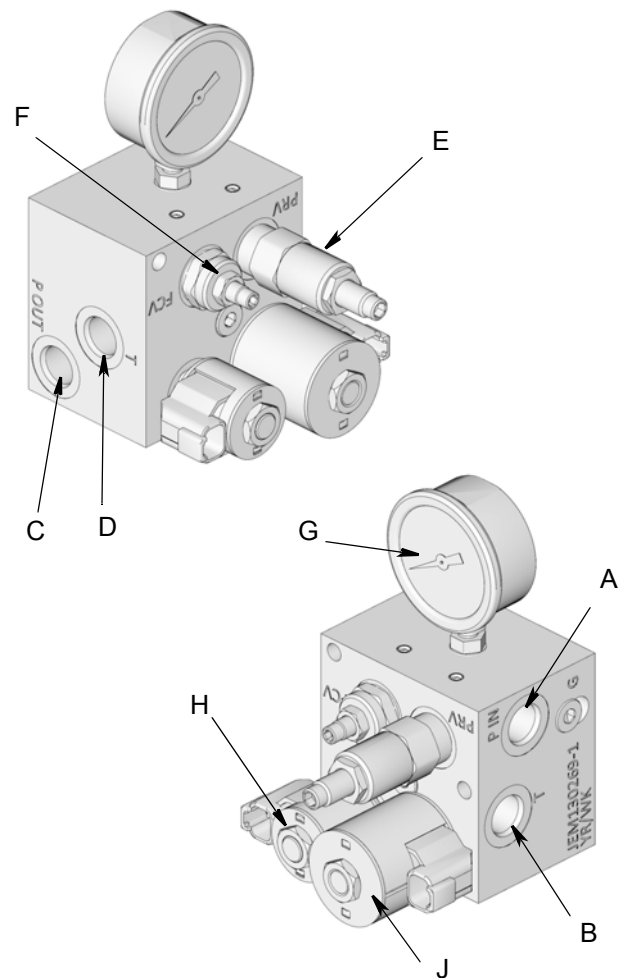
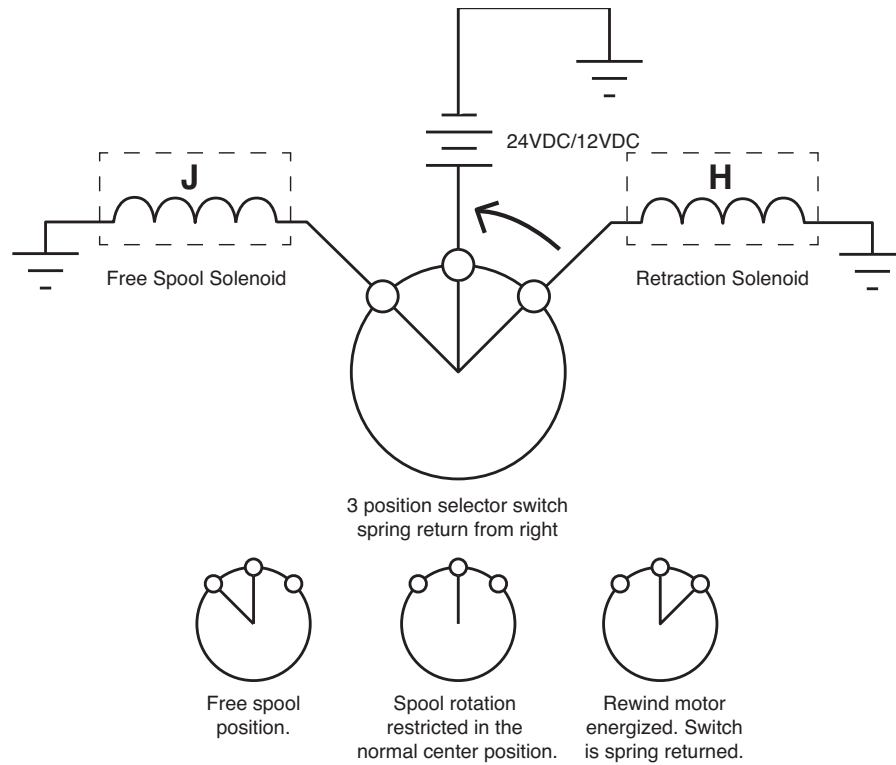
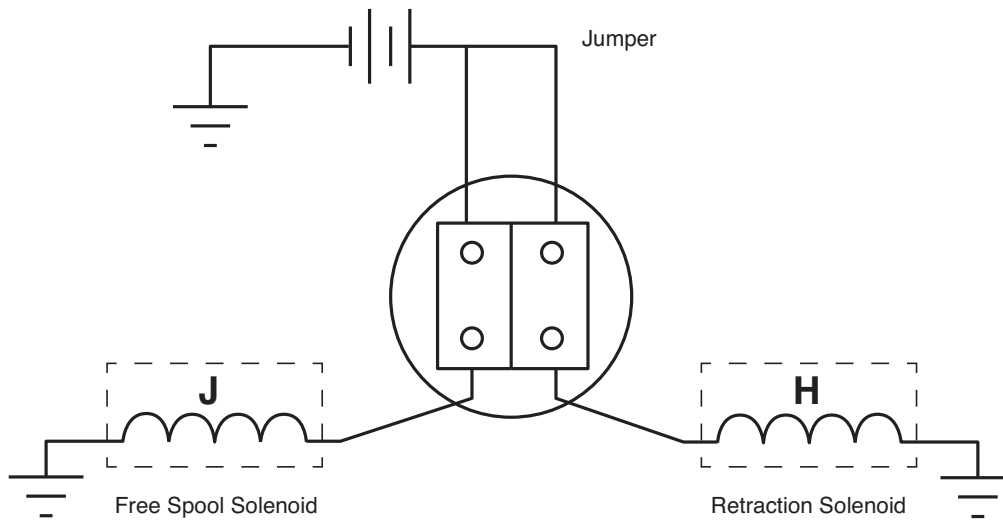

FIG. 19
FIG. 20
FIG. 21
1. Install hydraulic control (Graco PN 127224 - 12V or 127225 - 24V. See Miscellaneous Kits, page 43) (FIG. 19).
- a. Connect hydraulic power supply to hydraulic pressure inlet (A).
- b. Connect tank return hose to tank port (B).
- c. Connect hydraulic pressure outlet (C) to proper hydraulic motor inlet on reel for the desired rotation direction.
- d. Connect tank return (D) to remaining port on reel motor.
2. Wire switch to solenoids on hydraulic control module as shown in (FIG. 20 and FIG. 21).
- Hydraulic Motors - Reverse input and return to tank lines on hydraulic motor (FIG. 19, page 26).